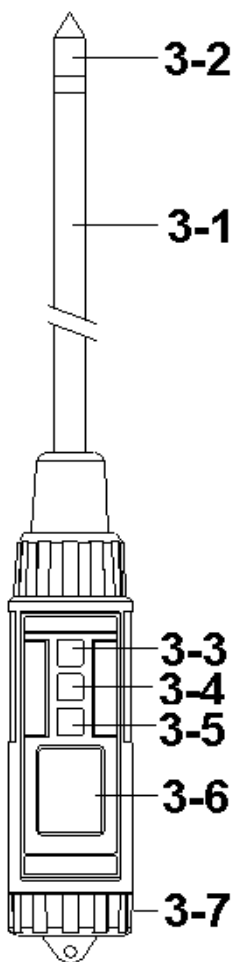

Fig. 1
(3-3, Fig. 1) momentarily.
** Press the " Power Button " (3-3, Fig. 1)
2) Insert the " Moisture sensing head " (3-2, Fig. 1) into
- * During the measurement, press the " Hold Button " (3-4, Fig. 1) momentarily to hold the measured value. The LCD will show a " HOLD " symbol.
- 1) The data record function records the maximum and minimum readings. Press the " REC Button " (3-5, Fig. 1) momentarily to start the Data Record function, shows " REC " on the display.
- a) Press the " REC Button " (3-5, Fig. 1) momentarily, the " REC MAX " symbol along with the maximum value will appear on the display.
- b) Press the " REC Button " (3-5, Fig. 1) momentarily again, the " REC MIN " symbol along with the minimum value will appear on the display.
- * *When display shows " REC MAX " or " REC MIN ", press the " Hold Button " (3-4, Fig. 1) momentarily will delete the max. (min.) value, the display will show the " REC. " only and execute the memory function continuously.*
- * To change the batteries, open (rotate clockwise direction) the " Battery Cover " (3-7, Fig. 1).
- * Make sure the " Battery cover " (3-7, Fig 1) is secured after changing the batteries.